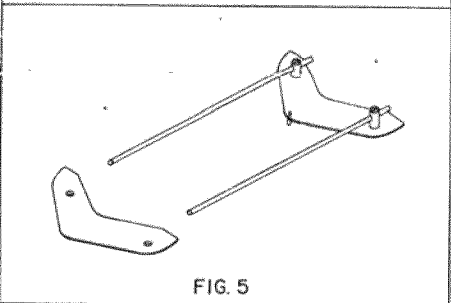

FIG. 5
**FIG. 5, TRAMMEL POINT ATTACHMENT NO. 25154**—This attachment can be used with the router to cut inside circles from 2" to 26" diameter, and can also be used for fancy circular edge work.